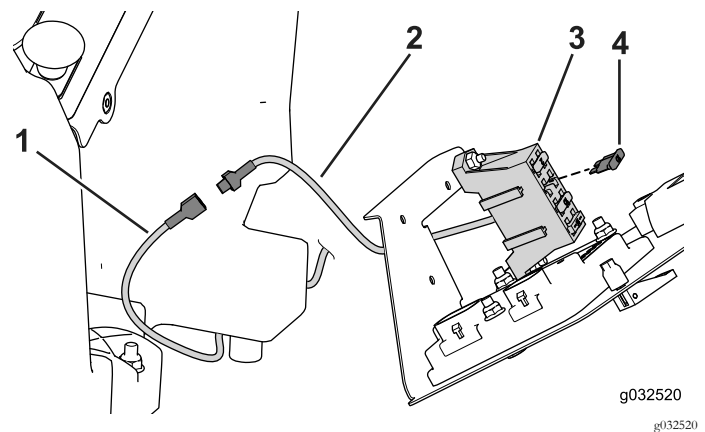

Figure 40
2. Route the auxiliary-power wire into the operator-controls compartment (Figure 40).
3. Connect the auxiliary-power wire to an unused fuse-block wire from the fuse block (Figure 40).
4. Install a fuse (10 A) into the fuse location connected to the auxiliary-power wire (Figure 40).